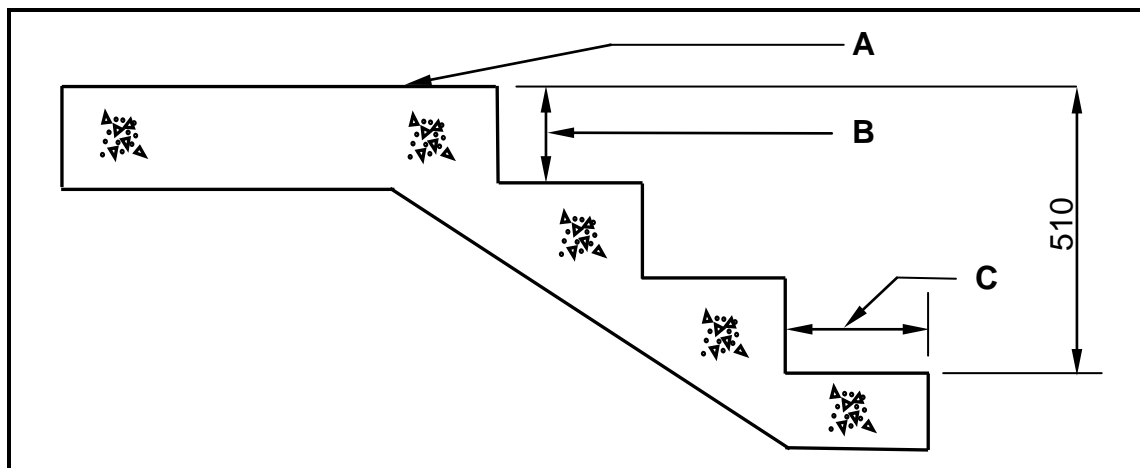

FIGURE 2.7
2.7 FIGURE 2.7 below shows a drawing of a concrete staircase.